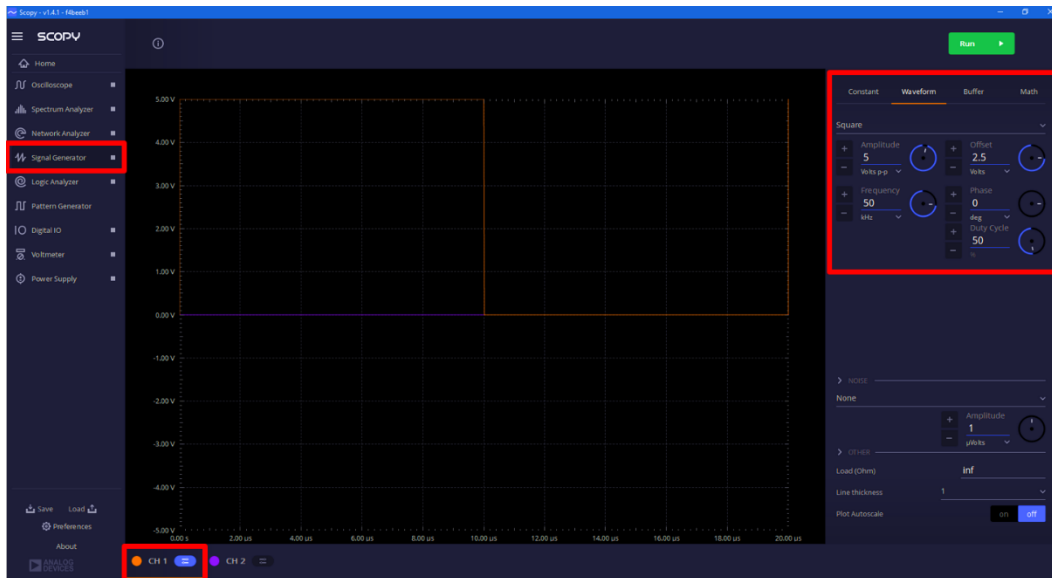
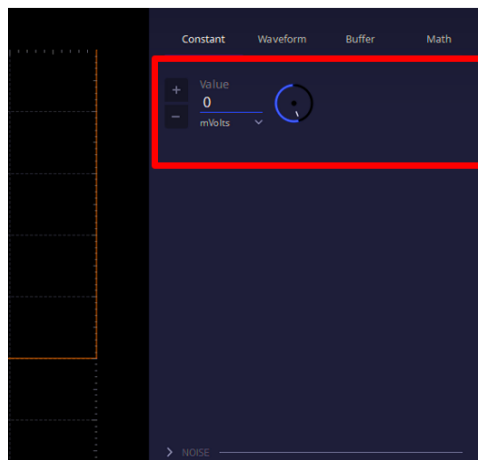

Figure 15. Channel 1 Signal Configuration for the TIA Stability Demo
Figure 16. Channel 2 Signal Configuration for the TIA Stability Demo
- After the supply voltages have been configured, click **Signal Generator** from the **Instruments Menu** to set the signal to be applied. Click **CH 1** (Channel 1) first on the bottom left corner of the GUI and set a **50kHz, 5Vpp square wave signal with an offset of 2.5V and a duty cycle of 50%** as shown in Figure 15.
Afterwards, click **CH 2** (Channel 2) from Figure 15. Set a **constant voltage of 0mV** for Channel 2 as shown in Figure 16.